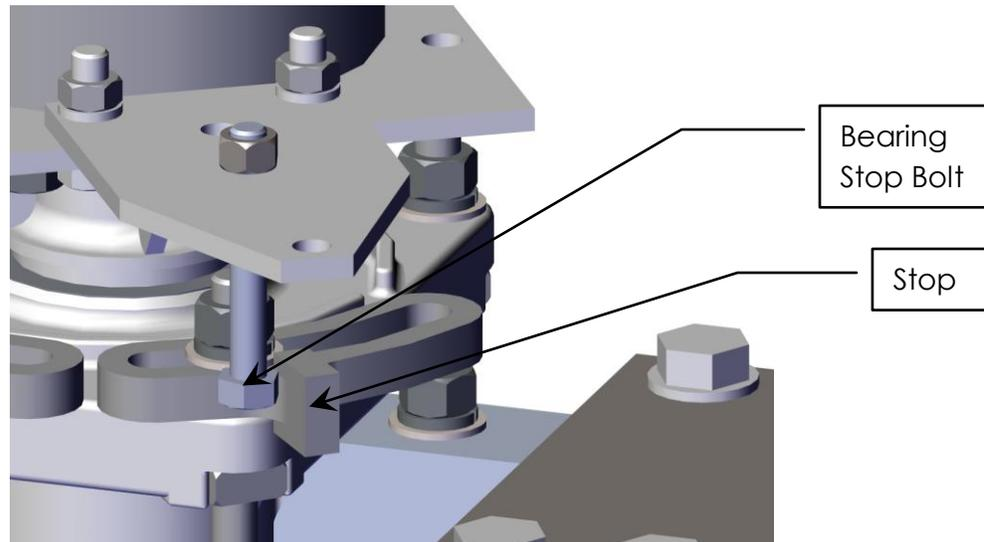

Figure 28: Bearing Opened Position Stop
- c) The bearing opened position stop at the bottom of the insulator is correctly adjusted when there is a 1/16" to 1/8" clearance between the stop and the stop bolt. Adjust stop if necessary. See Figure 28.